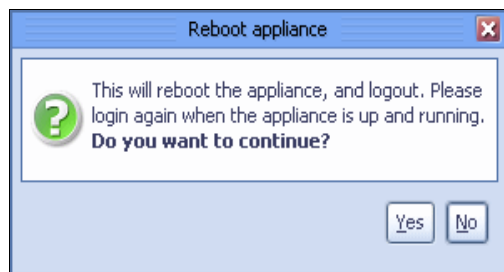

Figure 10-99 Reboot node confirmation window
3. Click **Reboot node**. A confirmation window opens (Figure 10-99). Click **Yes** and log in again.